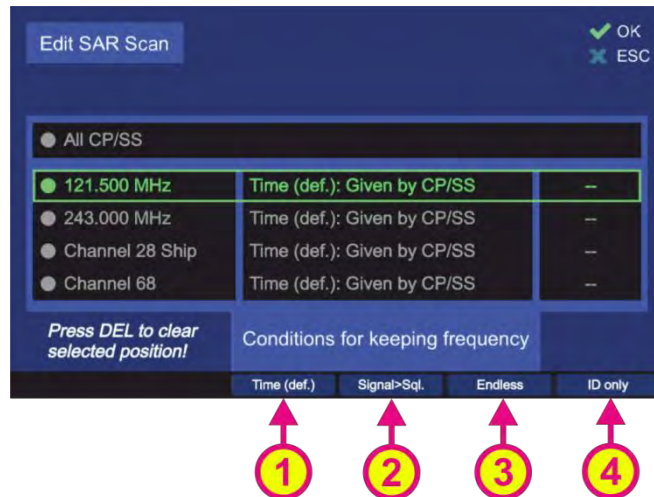

Figure 50. SAR scan. Edit scan settings.
- Pressing the hotkey “Edit Scan” (s. Figure 48, position 4) will open the dialog for changing the SAR scan settings (s. Figure 50)
- The hotkey “Edit Freq.” opens the “Frequency/Channel” input dialog and allows the modification of the currently marked frequency. This hotkey only appears for the frequencies that are configurable (the last two displayed frequencies: Channel 28 Ship and Channel 68, s. Figure 50).
- Pressing the hotkey „Time (def.)“ (s. Figure 50, position 1) will set the hold time (duration of staying in the scanning on this particular frequency) to the value that is given by the CP-SS setting (30/N or 45/N), s. 7.2.5.1.
- The hotkey “Signal>Sql” defines the behavior of the scan algorithm to “signal level > squelch level” (s. Figure 50, position 2). If this hotkey is pressed, the scan algorithm will stay on the active frequency until the signal level value becomes higher than the squelch value.
- The hotkey “Endless” (s. Figure 50, position 3) defines the behavior of the scan algorithm when an active frequency has been found.
- Pressing the hotkey “ID only” (s. Figure 50, position 4) activates or deactivates the feature “ID Only” (s. 7.2.2.3):